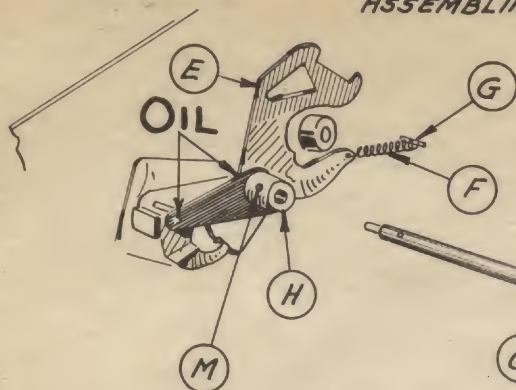

**FIG. 4**
- 369 ASSEMBLE GEAR (R) BETWEEN GEARS (L) AND (S) - IN TIME AS SHOWN IN FIG. 4. PUT ON RETAINING CLIPS.